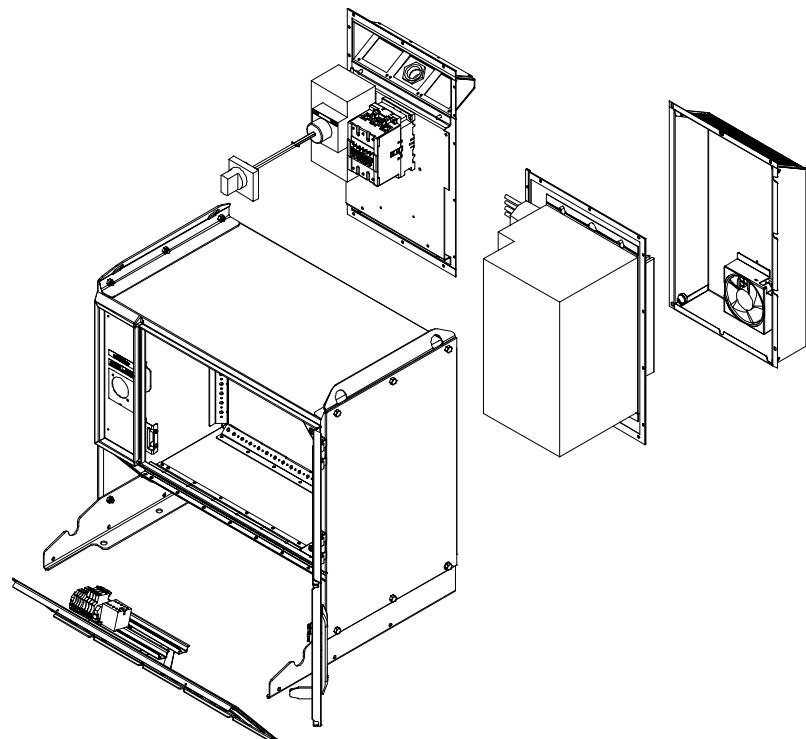

Figure 81 Exploded view drawing of the Spot Welding cabinet.
- Modular built for easy repair and installation (see Figure 81 below)